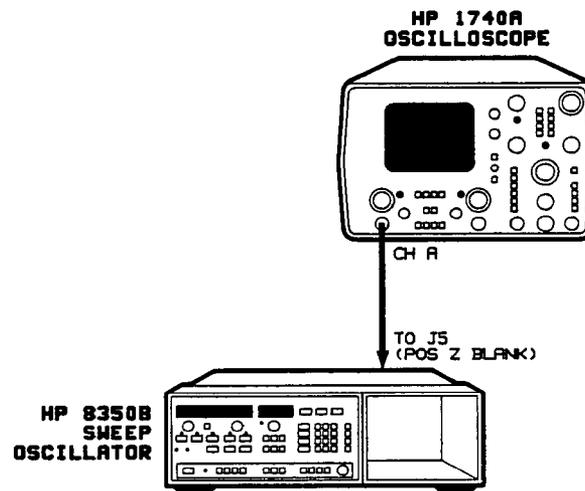

Figure 5-16. Marker DAC Adjustment Setup
5. Position the sweep oscillator upright as shown in Figure 5-16 and remove top cover.